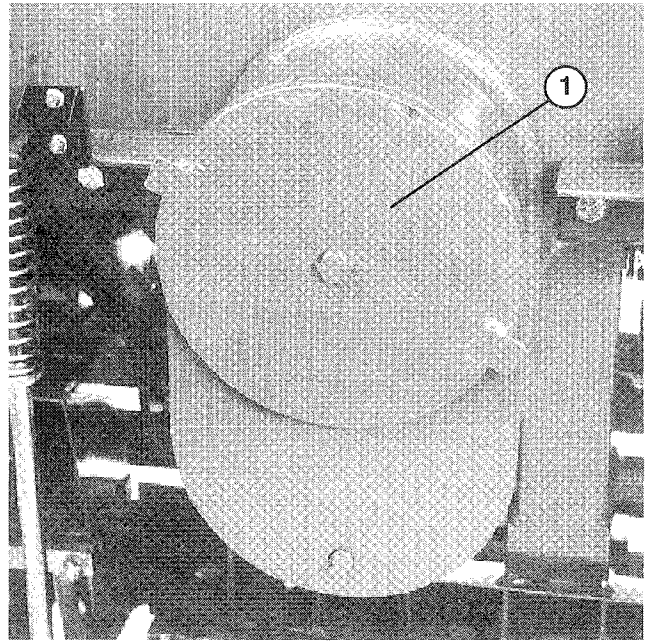

**Figure 20**
1. At front of aerator, remove (2) plugs from case ports (Fig. 20).